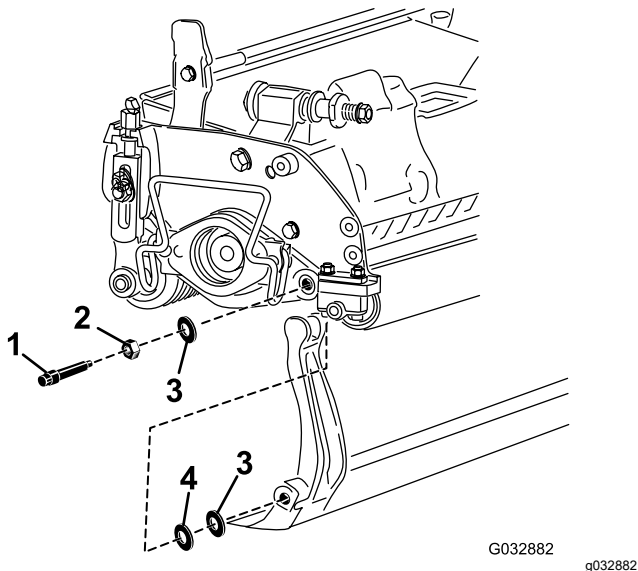

Figure 15
Account for the 2 nylon washers and 1 steel washer on each end of the bedbar (Figure 15).
- 3. Position a nylon washer on each side of the side-plate boss. Place a steel washer outside each of the nylon washers (Figure 15).